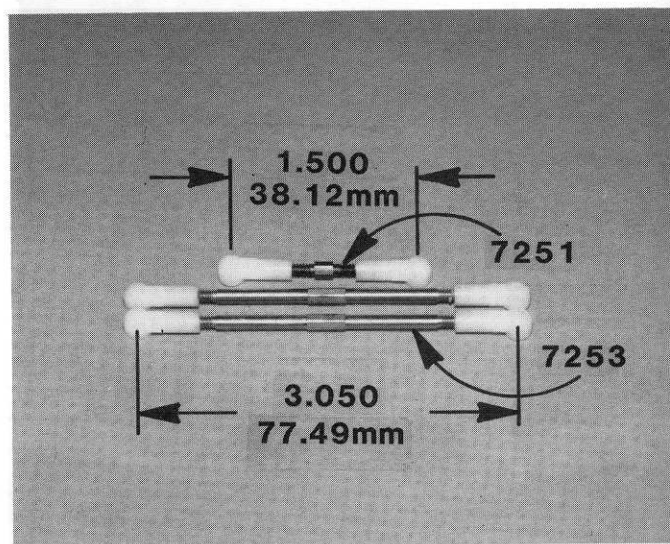

Fig. 26
□ **Fig. 26** Take the shortest turnbuckle and two of the long turnbuckles and thread on the plastic ball cup ends as shown. Remember, the dimensions are to the center of the ball, NOT to the end of the ball cup.